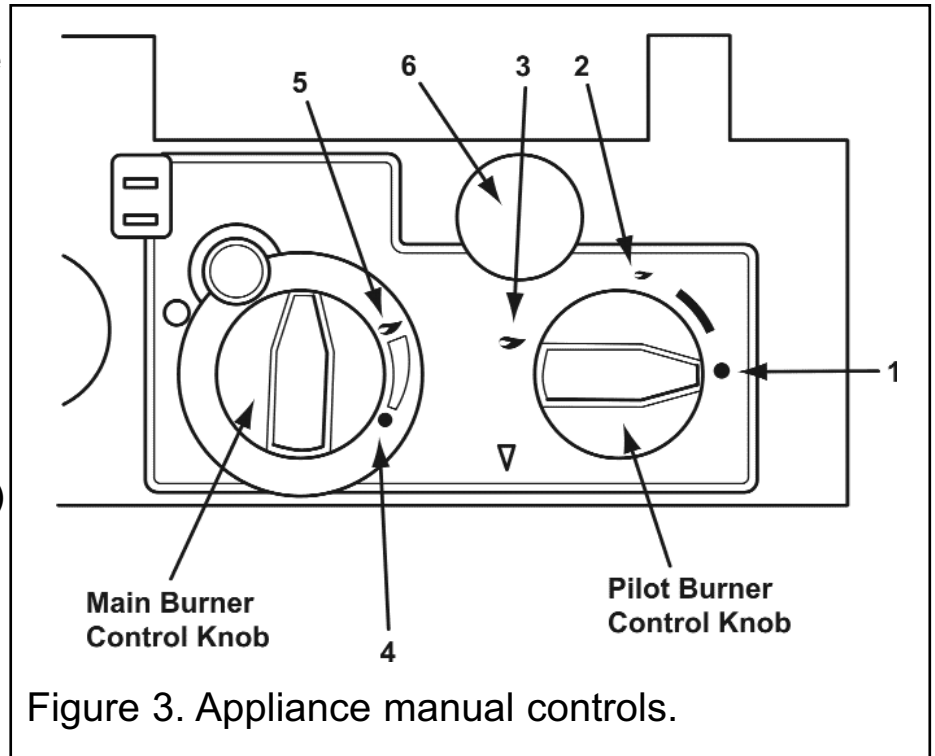

Figure 3. Appliance manual controls.
1. Ensure that the pilot burner control knob is in the OFF position (Number 1 in figure 3).
2. Depress the pilot burner control knob and turn anti-clockwise to the ignition position (Number 2 in figure 3) to activate the piezo ignition system. A 'click' will be heard and the pilot should light. Observe if it is alight by looking through the slots to the left hand end of the front ceramic fuel effect.
1. Once the pilot light is established, light the main burner by turning the pilot burner control knob anti-clockwise to the "main burner on" position (Number 3 in figure 3), and by then turning the main burner control knob to the high position (Number 5 in figure 3).
2. Check the full range of heat settings by turning the main burner control knob slowly between the high position and the low position (Number 4 in figure 3).
Turn the main burner control knob fully clockwise. Alternatively turn the pilot burner control knob clockwise to the ignition position (Number 2 in figure 3).
Rotate the pilot/burner control knob clockwise to position 1, as shown in figure 3.
3. Turn the fire off by rotating the pilot burner control knob to the OFF position (Number 1 in figure 3).
1. Allow the appliance to warm up, (for at least fifteen minutes) in the fully aerated position, with the aeration control lever pushed in to the locked position (See figure 5, & number 6 in figure 3).